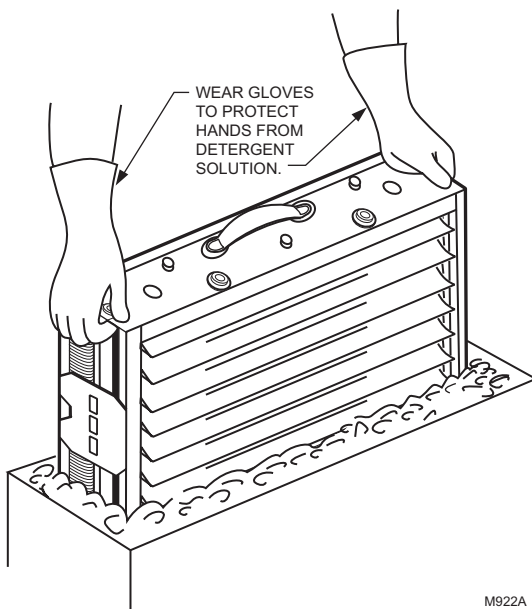

Fig. 13. Washing cells in container.
3. After detergent has completely dissolved, place cells in the container and let soak for 15 to 20 minutes. Agitate up and down a few times and remove. See Fig. 13.